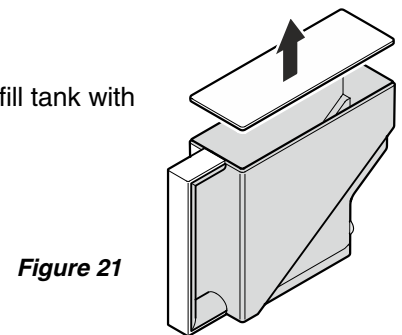

Figure 21
2. Remove cover and fill tank with water (Figure 21).